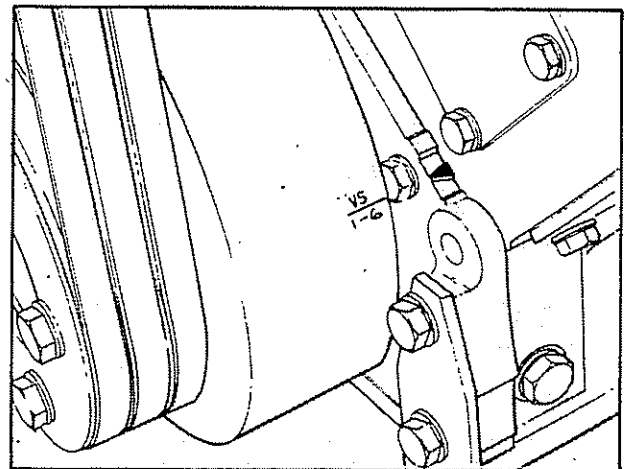
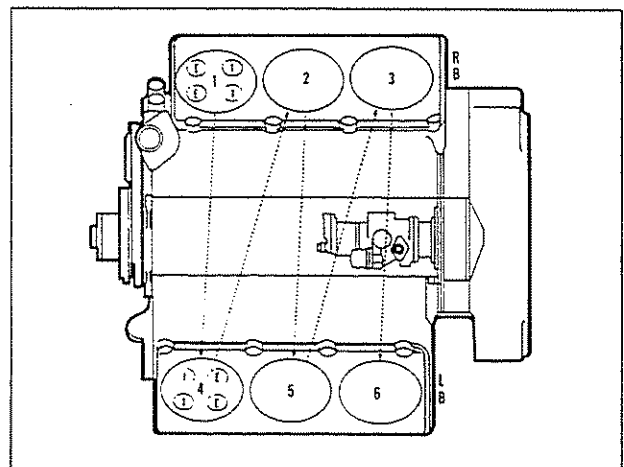
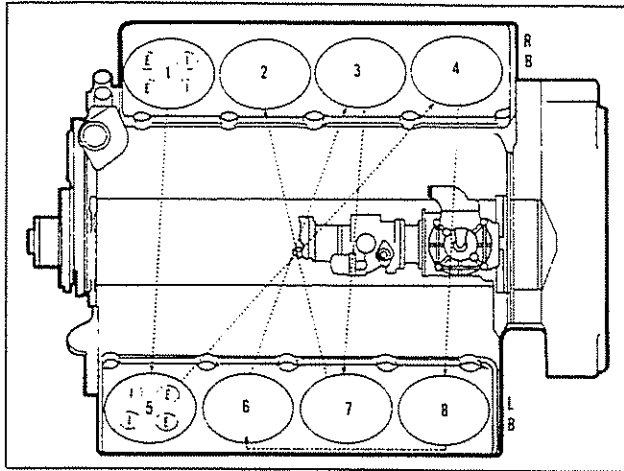

Fig. 2-28, (OM1035L). Valve set marks — V/VT-555, C.I.D. Engine
Fig. 2-29, (V11461). V6 firing order
Fig. 2-30, (V11462). V8 firing order
1. Turn the crankshaft in direction of rotation until No. 1 "VS" mark appears on the vibration damper or crankshaft pulley. See Fig. 2-28 for the location of the valve set marks. In this position, both intake and exhaust valves must be closed for cylinder No. 1; if not, advance the crankshaft one revolution. See Fig. 2-29, Fig. 2-30 and Table 2-6 for firing order.